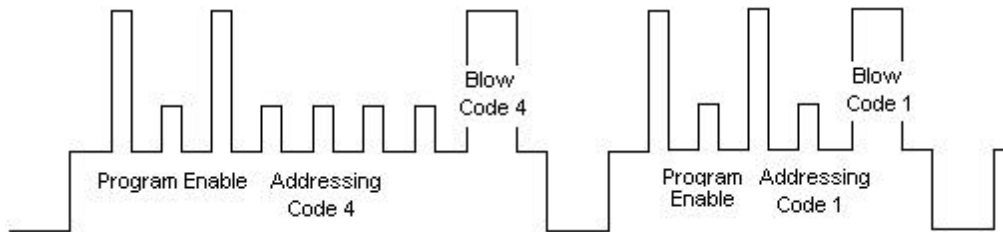

Figure 3. Bit programming.
**Code Programming.** After the desired switch point address is selected (0 through 31), each bit of the corresponding binary address should be programmed individually, not at the same time. For example, to program code 5 (binary 000101), bits 1 (code 1) and bit 3 (code 4) need to be programmed. Bit programming is accomplished by addressing the code and applying a  $V_{PP}$  pulse, the programming is not reversible. An appropriate sequence for blowing code 5 is shown in Figure 3.